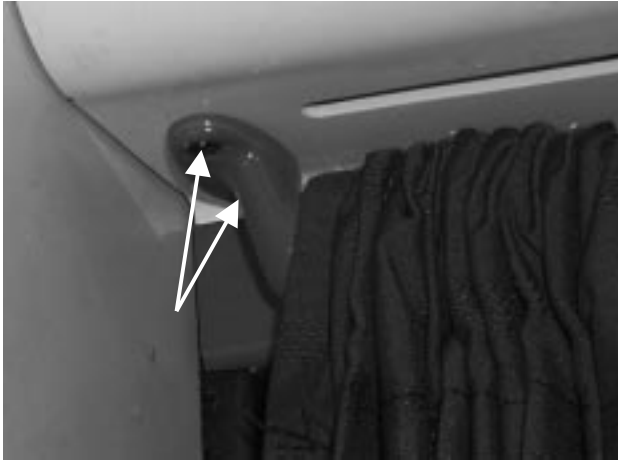

Figure 11: Curtain rail securing screws
- 1) In the restroom, open the emergency window. Move both curtains towards the middle of the curtain rail. Undo and remove the 4 screws securing the upper curtain rail to the air outlet molding above the window (see Figure 11). Withdraw the rail.